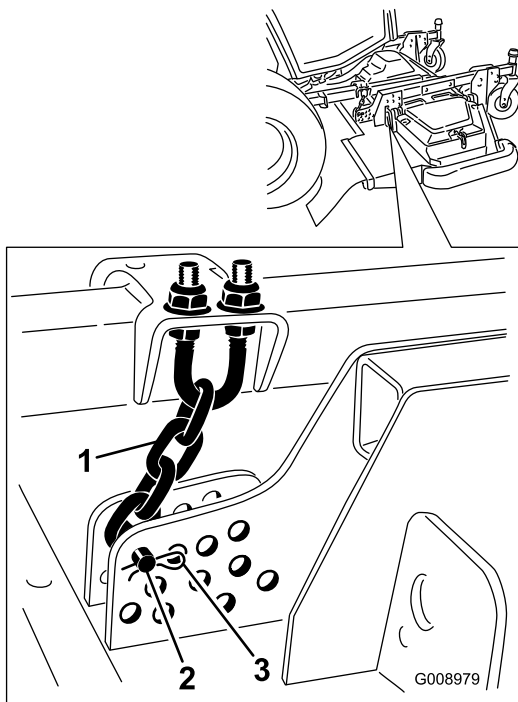

Figure 131
4. Remove the hairpin cotter and clevis pin securing the height-of-cut chains to the rear of the mower deck (Figure 131).